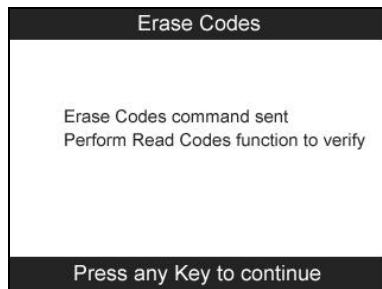

Figure 15.4
- 3) If the erase command is sent successfully, the screen will show as below (Figure 15.4). Press any button to continue. To make sure codes are erased clearly, run **Read Codes** again.